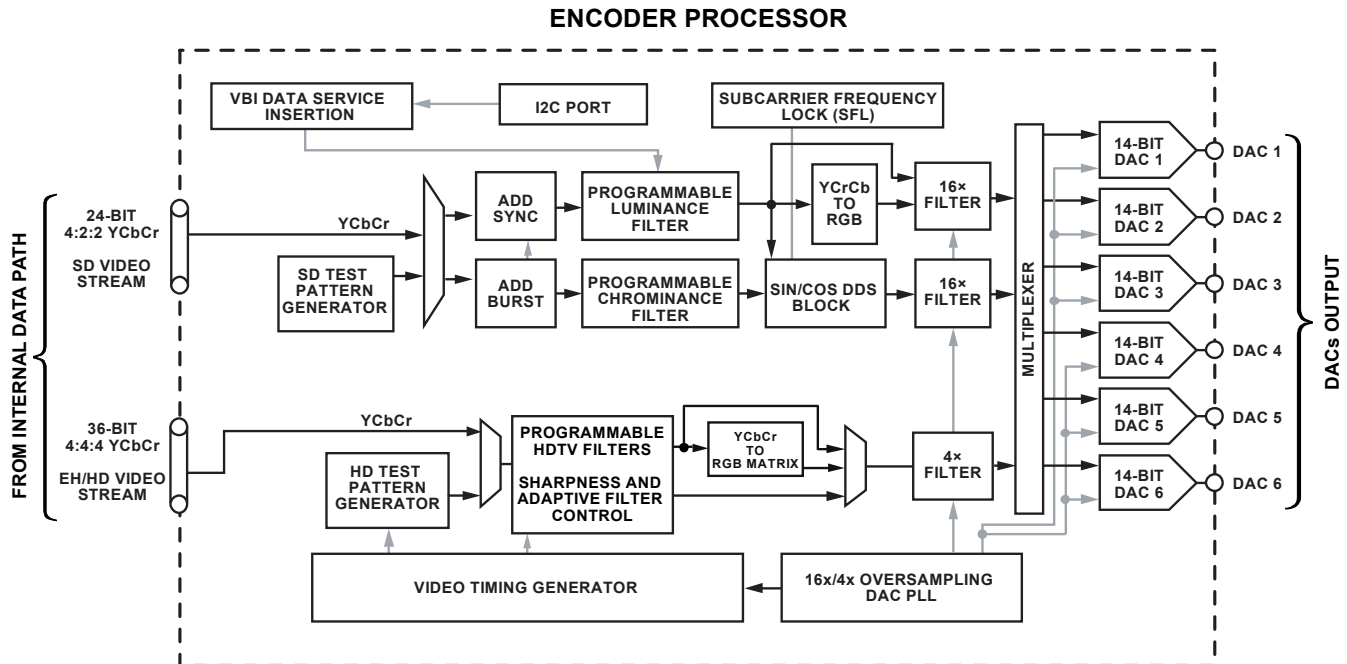

Figure 110: ADV8005 Encoder Block Diagram
The oversampling at 216 MHz (SD and ED) and 297 MHz (HD) ensures that external output filtering is not required. The block diagram for the ADV8005 encoder core is shown in Figure 110.